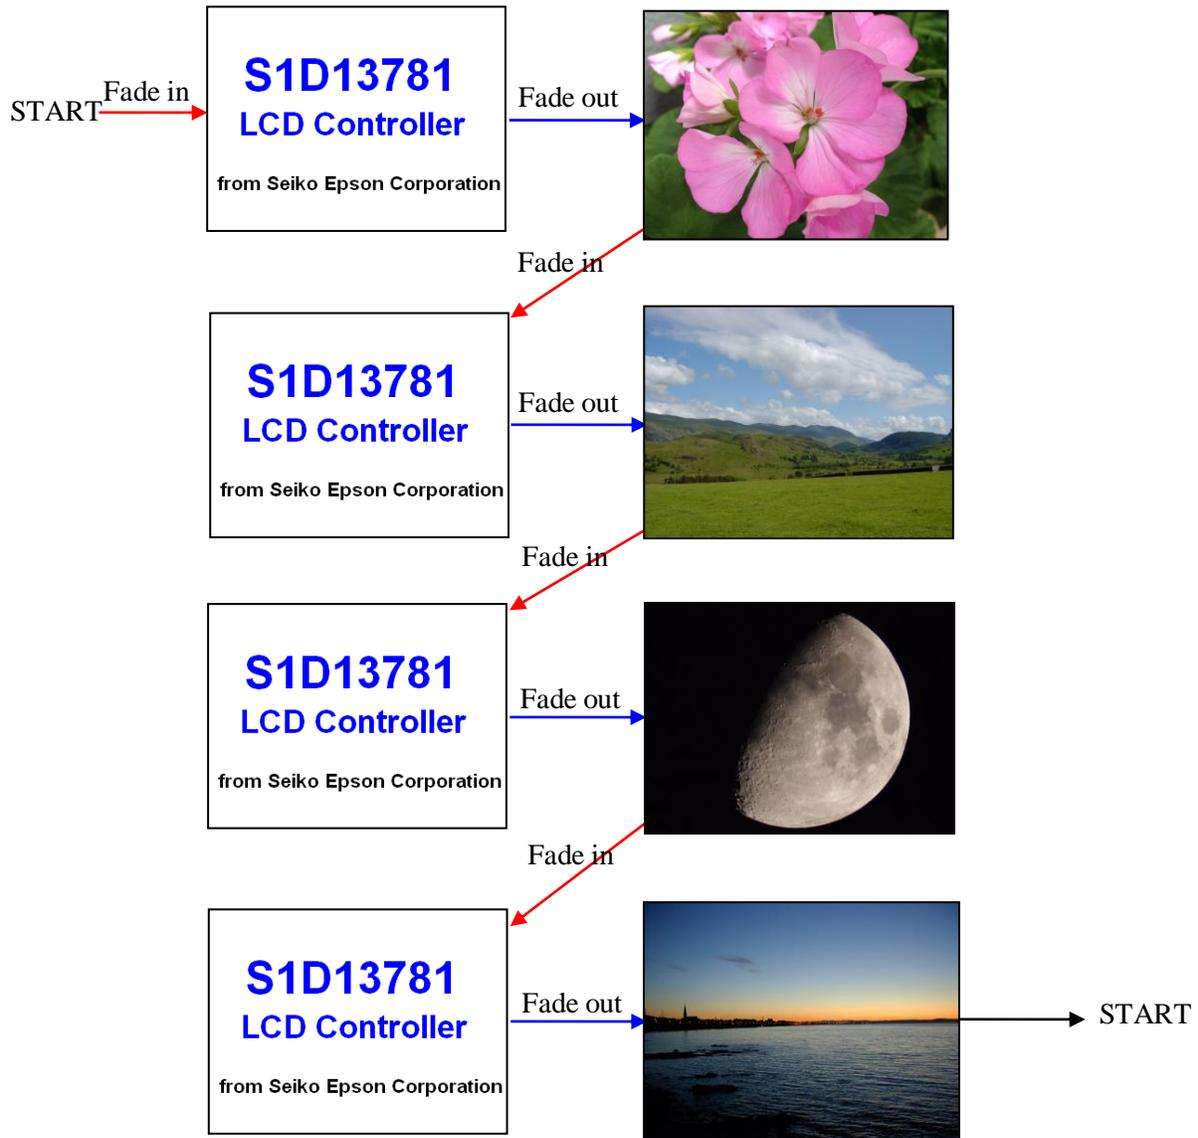

Figure 3-4 Demo Flow Diagram
The demo proceeds as shown in figure 3-4, *Demo Flow Diagram*.
- Section 3.6 Running demo – changes photos of figure 3-4. Demo flow diagram.